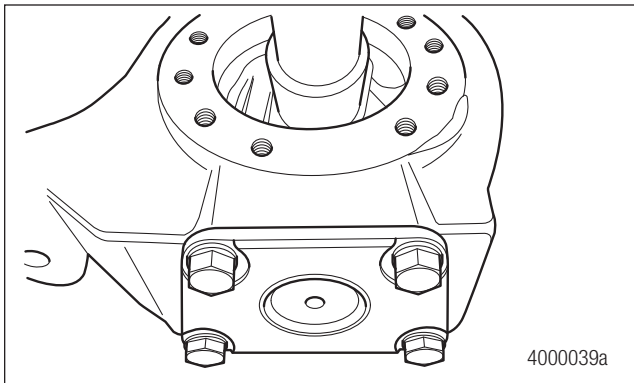

Figure 4.22
1. Remove the four capscrews and washers from the lower knuckle cap. Figure 4.22.